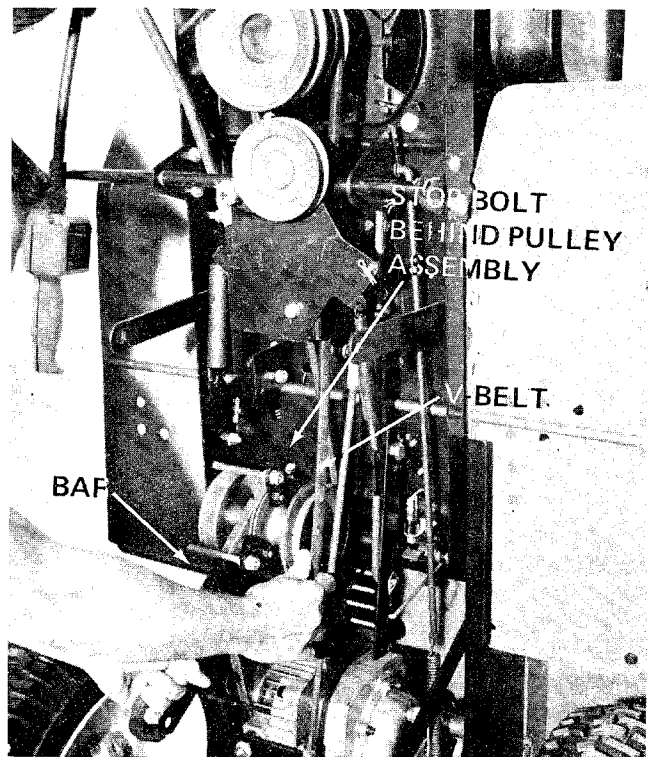

FIGURE 25.
6. Using a bar or large screwdriver, pry the pulley assembly towards the front of the tractor and unhook the belt from the pulley. See figure 25.